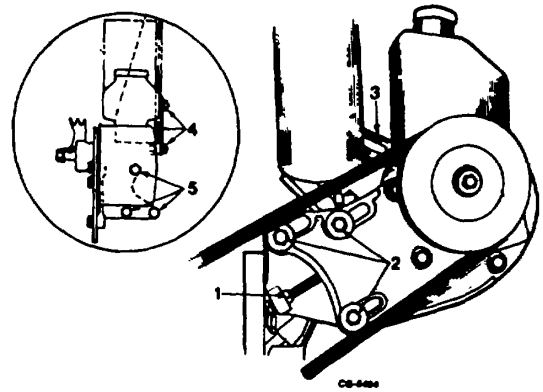

Figure 16. Removing Power Steering Pump
10. Loosen the power steering pump adjusting bolt locknut, three bracket bolts and adjusting strap bolt at the rear of pump. Push mounting bracket inward to remove power steering pump drive belts (Figure 16).
11. The power steering pump and mounting bracket may be removed from the engine as an assembly by removing the adjusting strap bolts and three pump brackets to engine mounting bolts (Figure 16).
1. Install power steering pump and mounting bracket assembly (Figure 16).